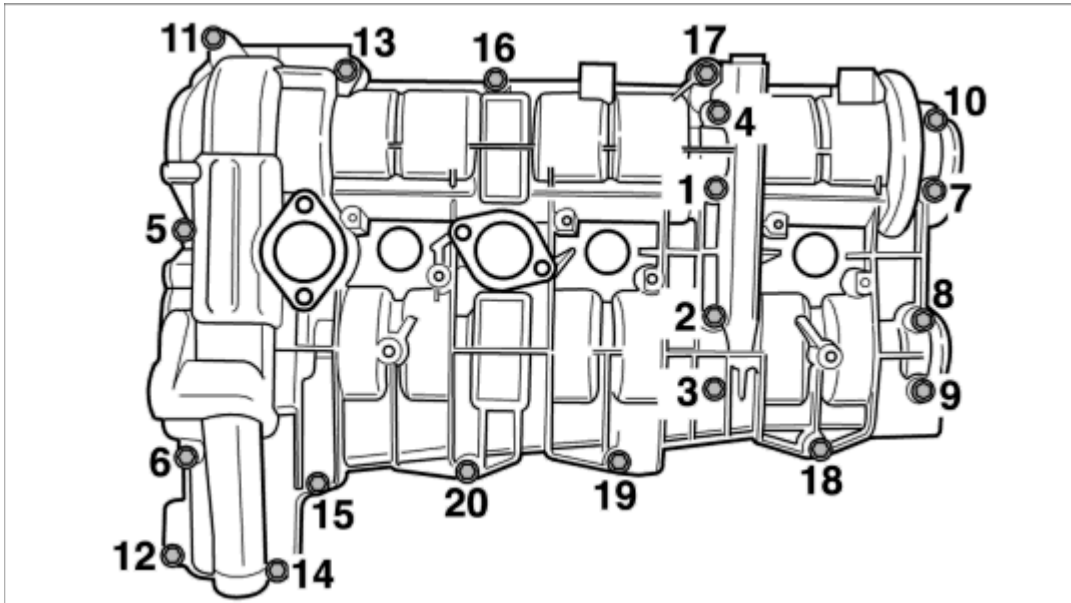

Fig. 207: Tightening sequence for cylinder head cover
5. Position 20 Torx screws (eight of these should be new, coated screws **-1-4 and 7-10-**) on the cylinder head cover and tighten according to the specified tightening sequence. Only lightly screw in the two screws in the area of the oil suction pump/tandem pump. They will be tightened after the pump is assembled. --> **Tightening torque: 13 (9.5 ftlb.) Nm** . See Fig. 207.